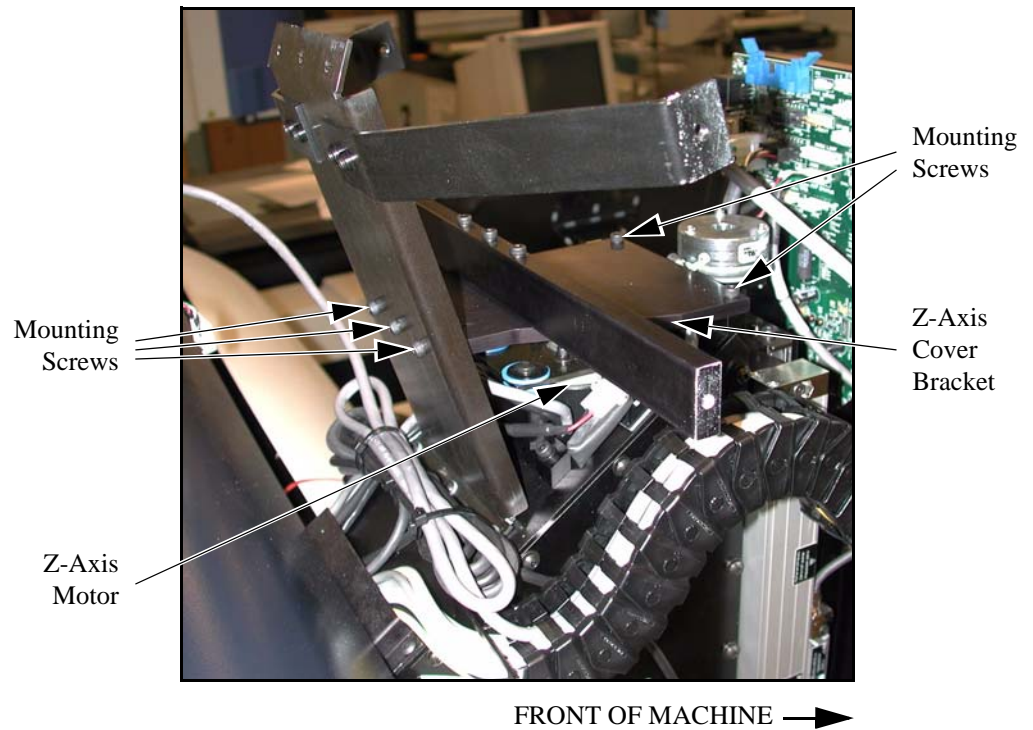

Figure 9-20 Removing the Z-Axis Cover Bracket
7. Use a 3 mm Allen wrench to remove the five screws that secure the Z-axis cover bracket to the machine (see Figure 9-20). Remove the bracket and set it aside. Retain all mounting hardware.